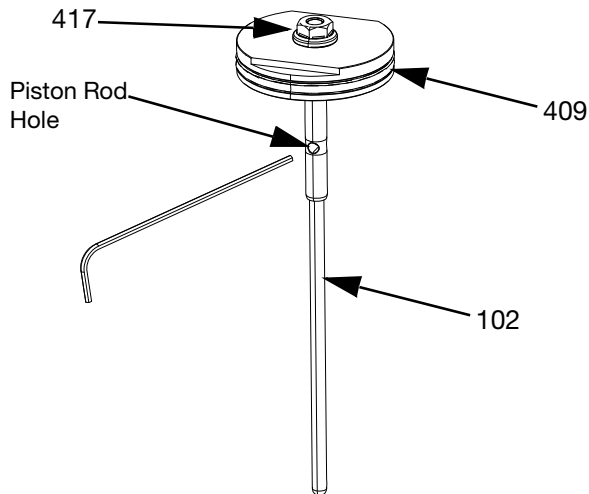

**FIG. 19**
6. For valves with ball-seat tip assemblies (FIG. 19):
- a. Place an Allen key in the through hole in the piston rod (410) and unthread the nut (417) using a 7 mm socket or wrench.